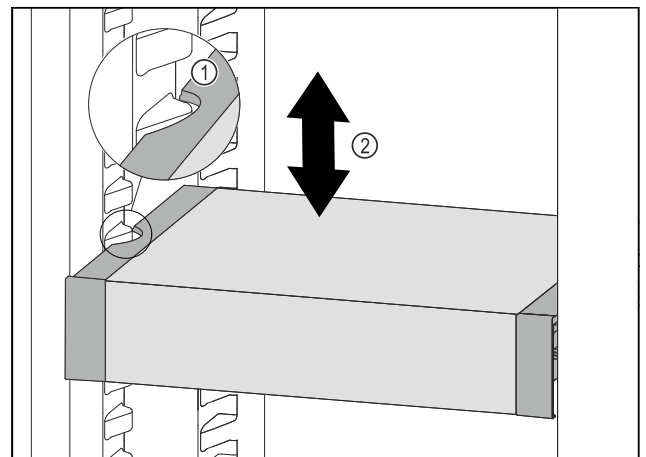

Fig. 122
- Pull VarioSafe forwards until the recesses in the side of the VarioSafe are at the level of the support rib in the refrigerator compartment. Fig. 122 (1)
- Move VarioSafe up or down in the refrigerator compartment until the desired height is reached. Fig. 122 (2)